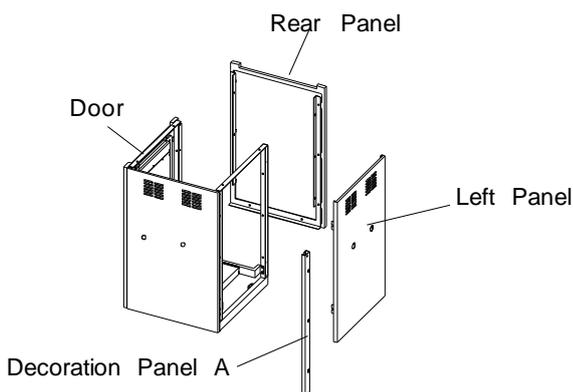

Fig. 3
- Reinstall Island Left Panel, Rear Panel and Decoration Panel A as shown in Fig. 3.